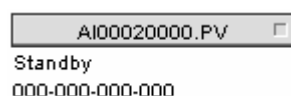

Figure 5-2 Display Description and Hardware Address
- After achieving tag reference, description display and hardware address display are available via “Display Description” & “Display Hardware Address” of the pop-up right-click menu, as shown in Figure 5-2.